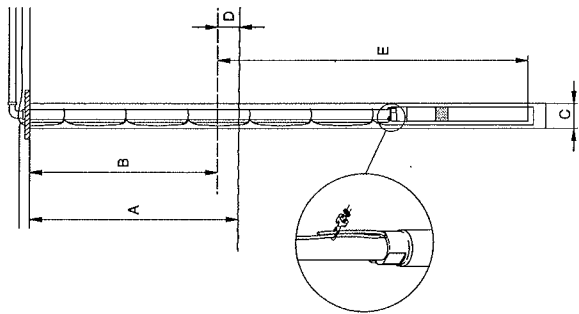

Fig. 9 Installation depth
- When plastic pipe is used, a stainless steel safety wire is recommended for lowering and lifting the pump. Fasten the wire to the eyelet on the pump, see fig. 9.
The dynamic water level should always be above the pump, see fig. 9.